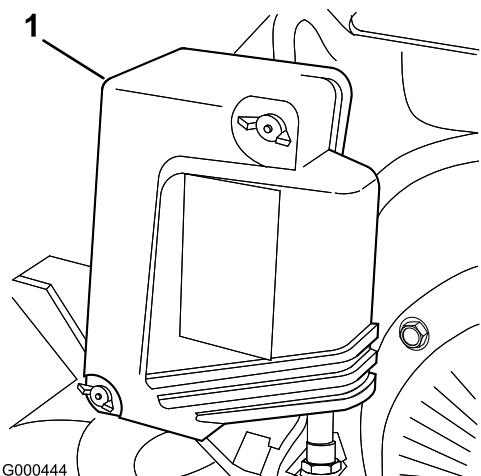

Figure 21
- Remove the wing nuts securing the air cleaner cover and remove the cover (Figure 21).